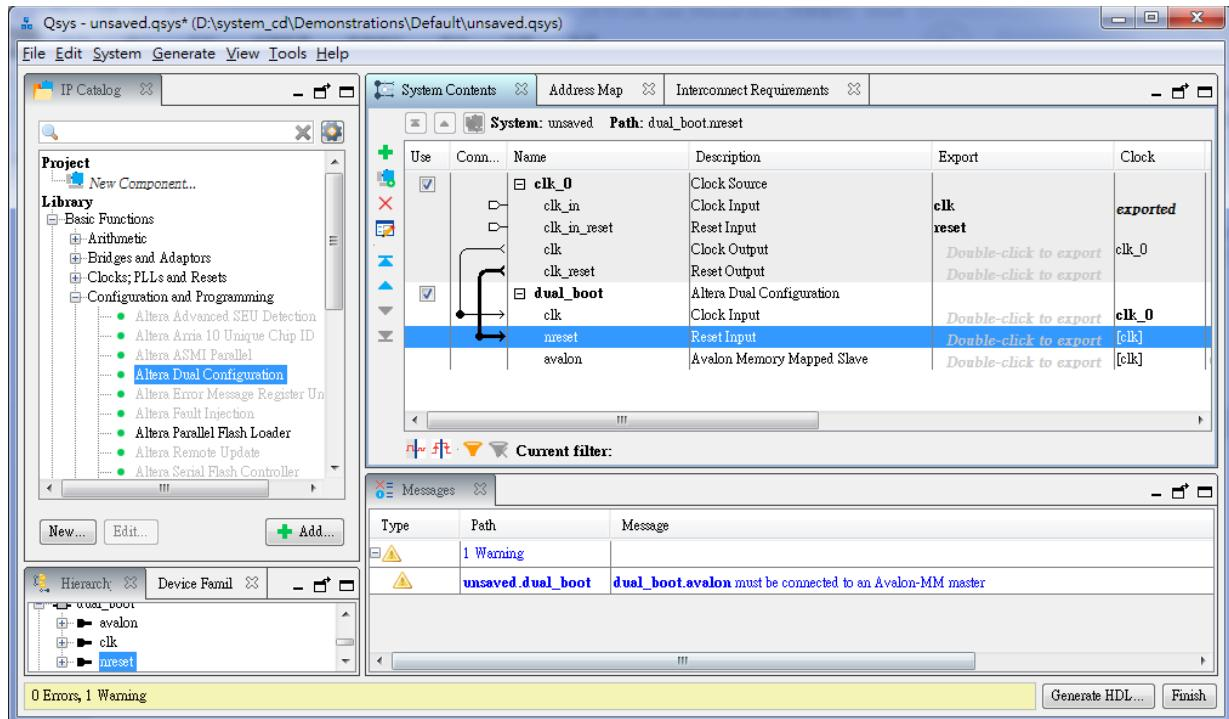

Figure 6-7 Rename and connect dual boot IP OK
3. Click **Finish** to close the wizard and return to the Qsys window. Choose **dual\_boot\_0** and click right key to select **Rename** it to **dual\_boot**, and connect the **clk** and **nreset** to **clk\_0.clk** and **clk\_0.clk\_reset** as shown in **Figure 6-7**.